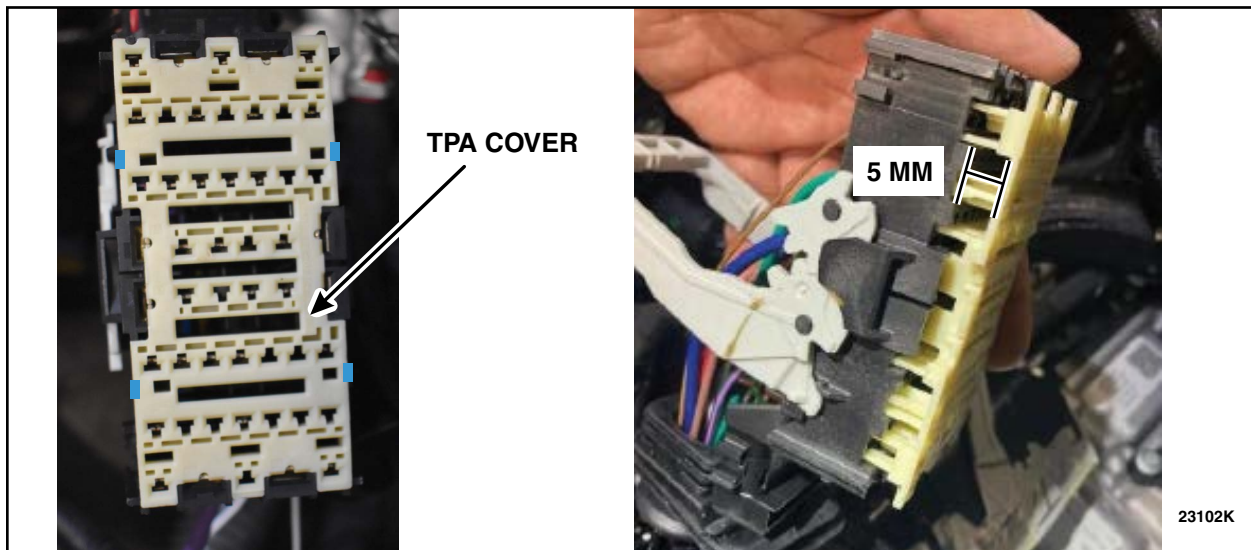

FIGURE 10
13. Position the Terminal Position Assurance (TPA) Cover to the first hard stop, approximately 5mm length. See Figure 10.